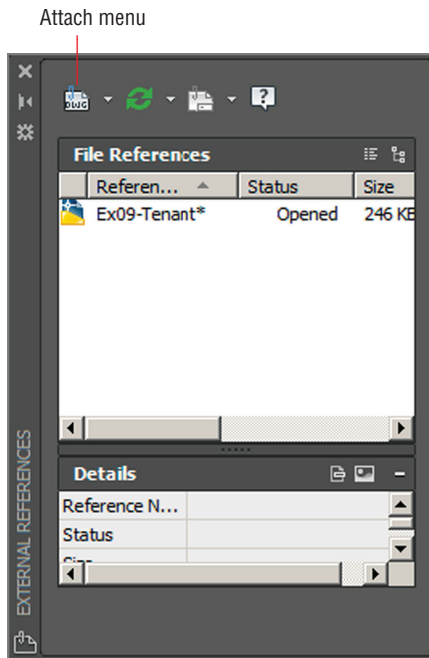

FIGURE 9.21 Attaching a DWG file in the External References palette
2. Select the file tab of Ex09-Tenant.dwg. Then select the ribbon's View tab and click the External References Palette button in the Palettes panel. Open the Attach menu, as shown in Figure 9.21.